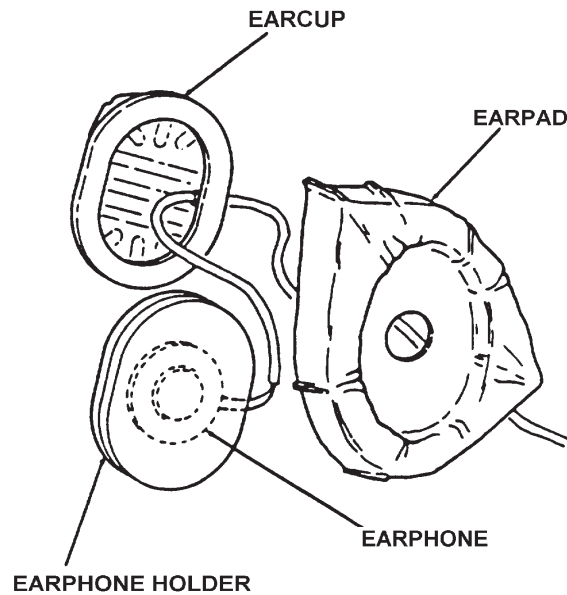

Figure 3-29. Earphone Inserted into Earphone Holder
- d. Referring to Figure 3-29, insert the earphones into the cavity of the earphone holders.